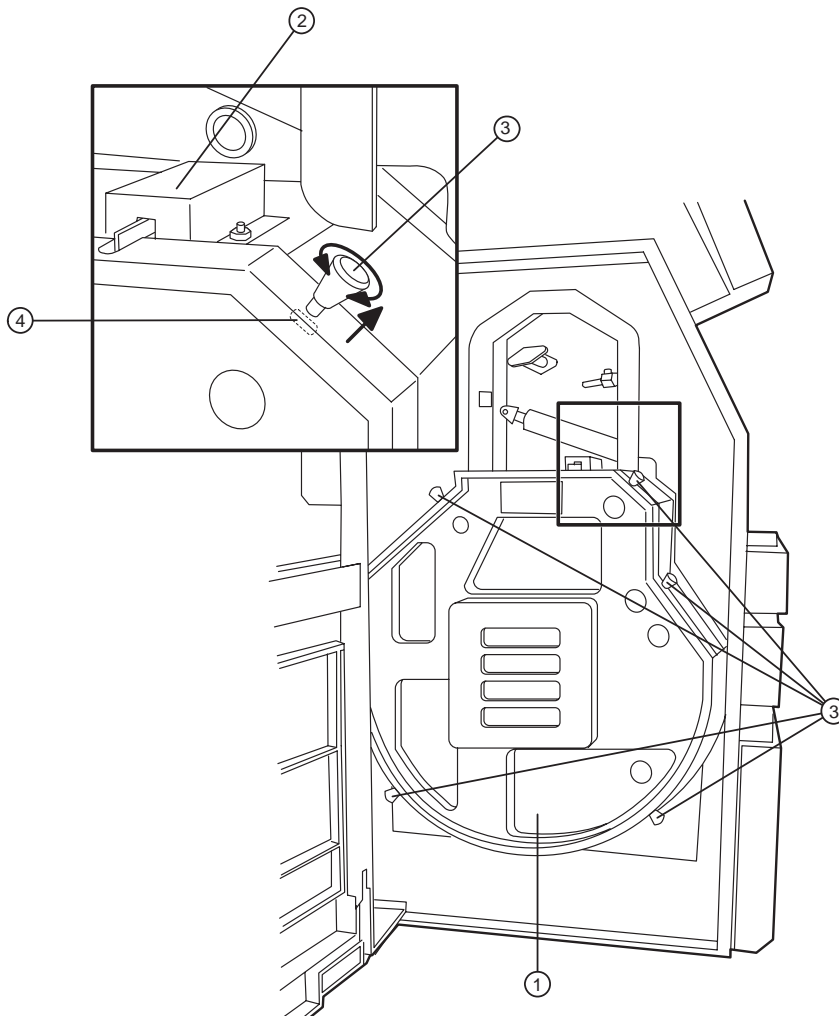

Figure 1-17 Removing the light shields.
2. Remove the light shields, left and right, by pulling each of the five (5) latch knobs out and twisting them so that they rest outside of the lock slot. Refer to Figure 1-17. The light shield on the left requires a twist toward the door to remove. Pull the light shield on the right straight out.
NOTE: When removing the light shield, the interlock switch, located above the shield (see Figure 1-17), automatically shuts off the laser and spin motor.